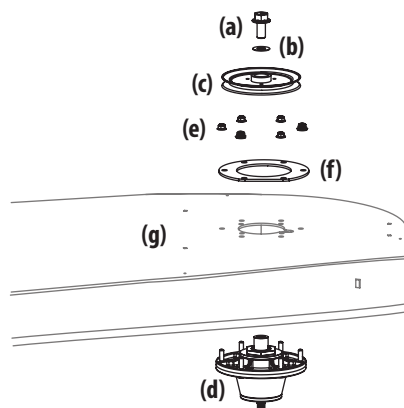
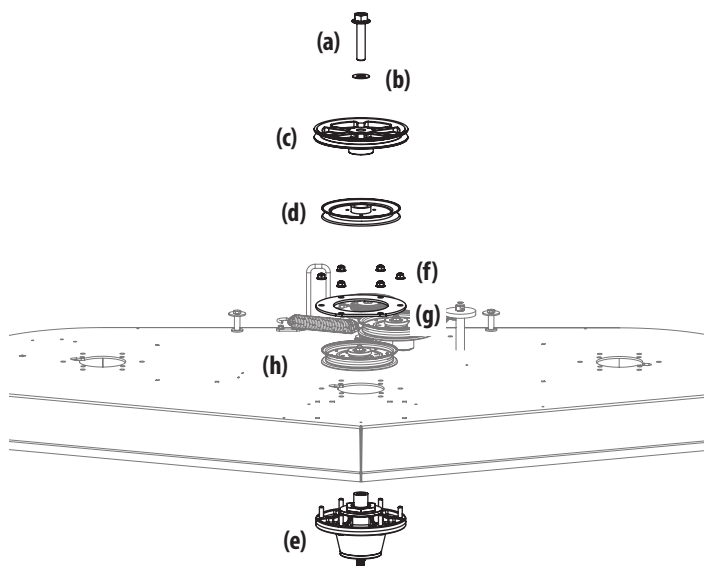

Figure 47
Figure 48
6. To remove the left and right spindle assemblies (Figure 47):
- b. Remove the six (6) flange lock nuts (e) securing the left and right spindle assemblies (d) and the support plates (f) to the deck shell (g).
7. To remove the center spindle assembly (Figure 48):
- b. Remove the six (6) flange lock nuts (f) securing the center (d) spindle assembly (e) and the support plates (g) to the deck shell (h).
9. Reverse the process to install the spindle assembly. When installing the new spindle assembly be sure to install the hardware exactly as shown (Figure 47 or Figure 48). Torque the hex flange bolts to 250 ft-lbs. (339 N-m) and the flange lock nuts to 21-32 ft-lbs (28-43 N-m).